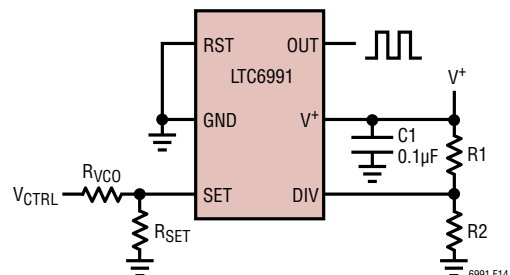

Figure 14. Voltage-Controlled Oscillator
With one additional resistor, the LTC6991 output frequency can be manipulated by an external voltage. As shown in Figure 14, voltage VCTRL sources/sinks a current through Rvco to vary the ISET current, which in turn modulates the output frequency as described in Equation (3).